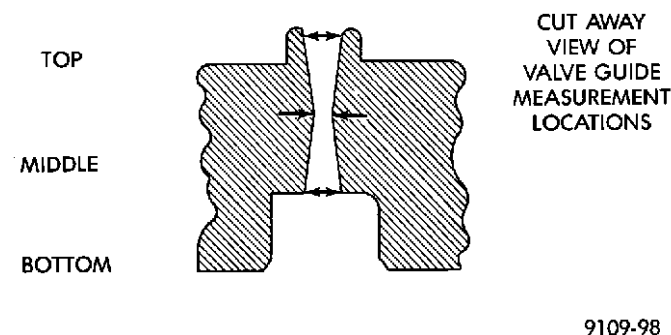

Fig. 91 Checking Wear on Valve Guide—Typical
(1) Remove carbon and varnish deposits from inside of valve guides with a reliable guide cleaner.
(2) Using a small hole gauge and a micrometer, measure valve guides in 3 places top, middle and bottom (Fig. 91). Refer to (Fig. 92) for specifications. Replace guides if they are not within specification.